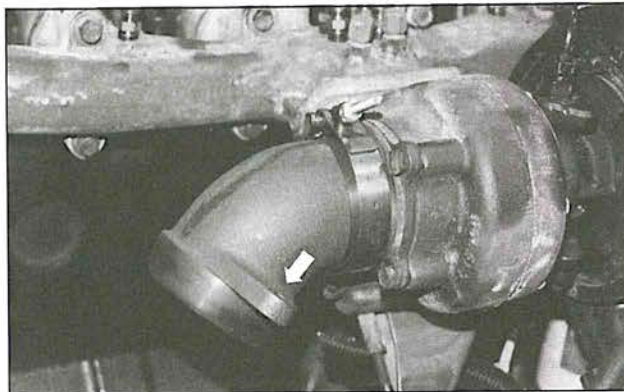

Fig. 3
- a. Remove the two bolts that attach the exhaust pipe to the exit side of the elbow (Fig. 3). Spray rust penetrant on bolts before loosening.
- b. Loosen and remove the "V" clamp that attaches the elbow to the exhaust side of the turbocharger (Fig. 3). This will allow you to remove the elbow from the vehicle. Also note relative position of the exhaust mounting flange. The E Brake will be mounted in the same orientation.